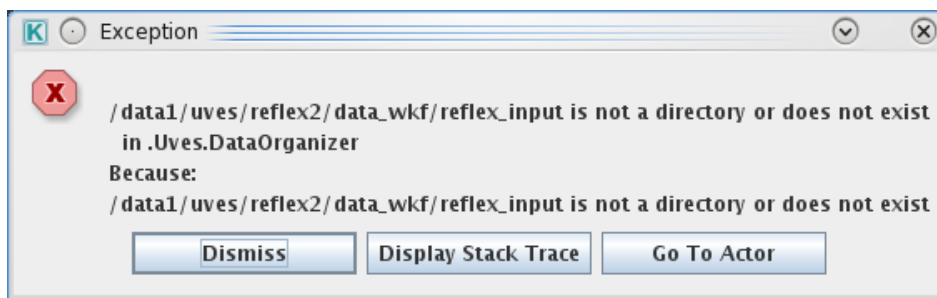

Figure 9.0.10: *TheDataOrganizer* interactive window reports an error “:No Datasets have been created, check the DataSet and the OCA rules.”.
- (b) **it fails with error message “:No DataSets have been created, check the data set and the OCA rules.”(see Figure 9.0.10.)**